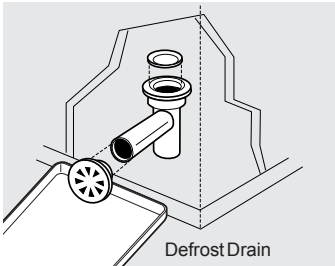
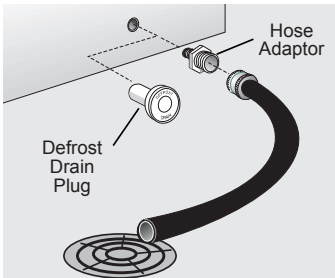
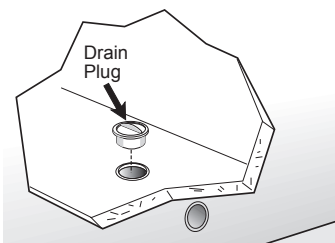

Figure 2
Figure 3
Figure 4
- **On chest models with a defrost drain,** place a shallow pan beneath the drain outlet (Figure 2). A ½" garden hose adaptor can be used to drain the freezer directly into a floor drain (Figure 3). If your model is not equipped with an adaptor, one can be purchased at most hardware stores. Pull out the drain plug inside the freezer, and pull off the outside defrost drain plug (Figure 4). Defrost water will drain out. Check pan occasionally so water does not overflow.